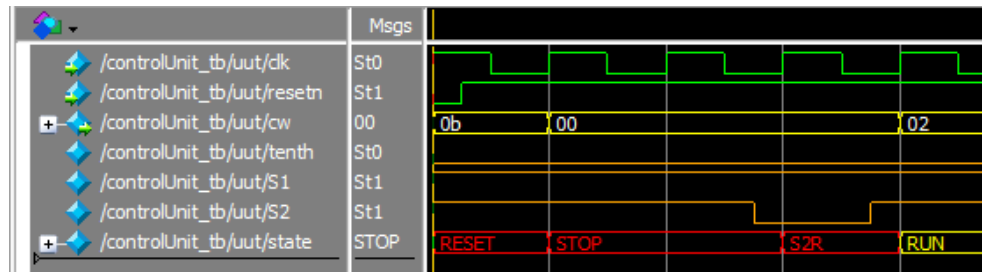

Figure 10.7: A small segment of the testbench simulation showing how Listing 10.1 encodes state names.
- This will produce a much more meaningful representation like that shown in Figure 10.7 of the state when you run the simulation.